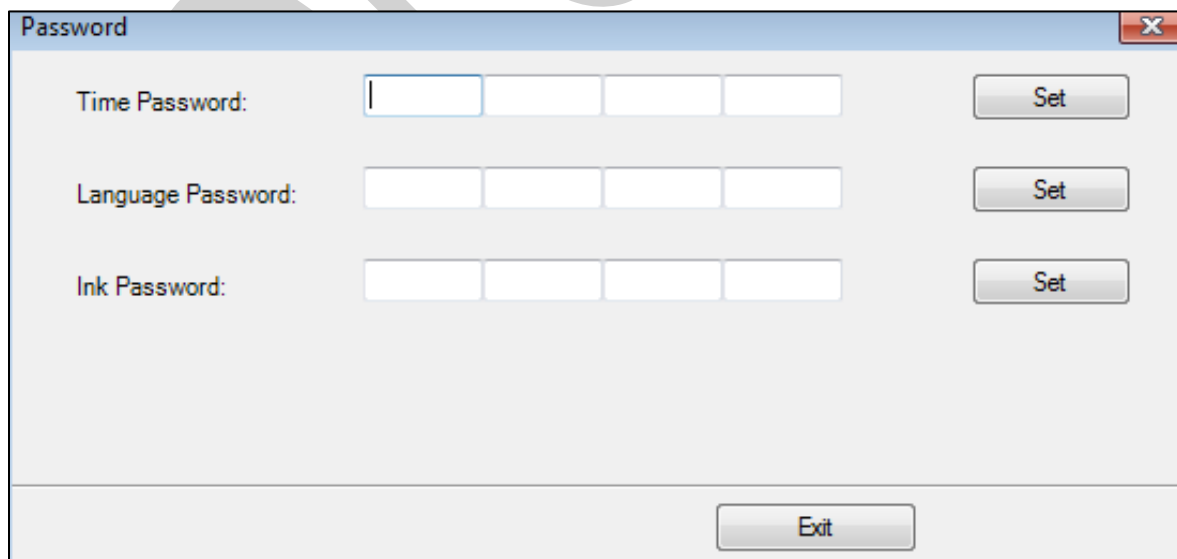

Fig 28: The Password Window
Step 2: Set values in the **Time Password** field as per the requirements (Refer to Fig 28).
Step 3: After feeding the passwords, *click* on the **Set** button in front of both the options (Refer to Fig 28).
Step 4: *Click* on the **Exit** button to close the **Password** window (Refer to Fig 28).
- Password Screen (Refer to Fig 28)